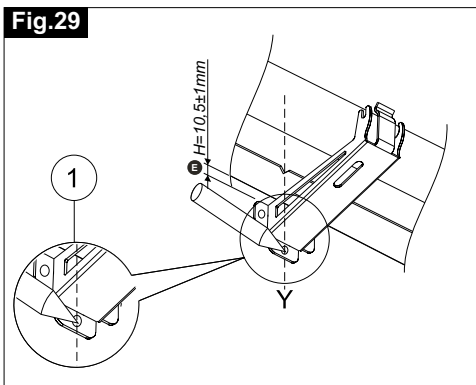

Fig.30
- 6) **Fig.30/31**- With a suitable drill, perform 3 holes of $\varnothing 3.7$ on the wing and tighten the bracket with proper screws;